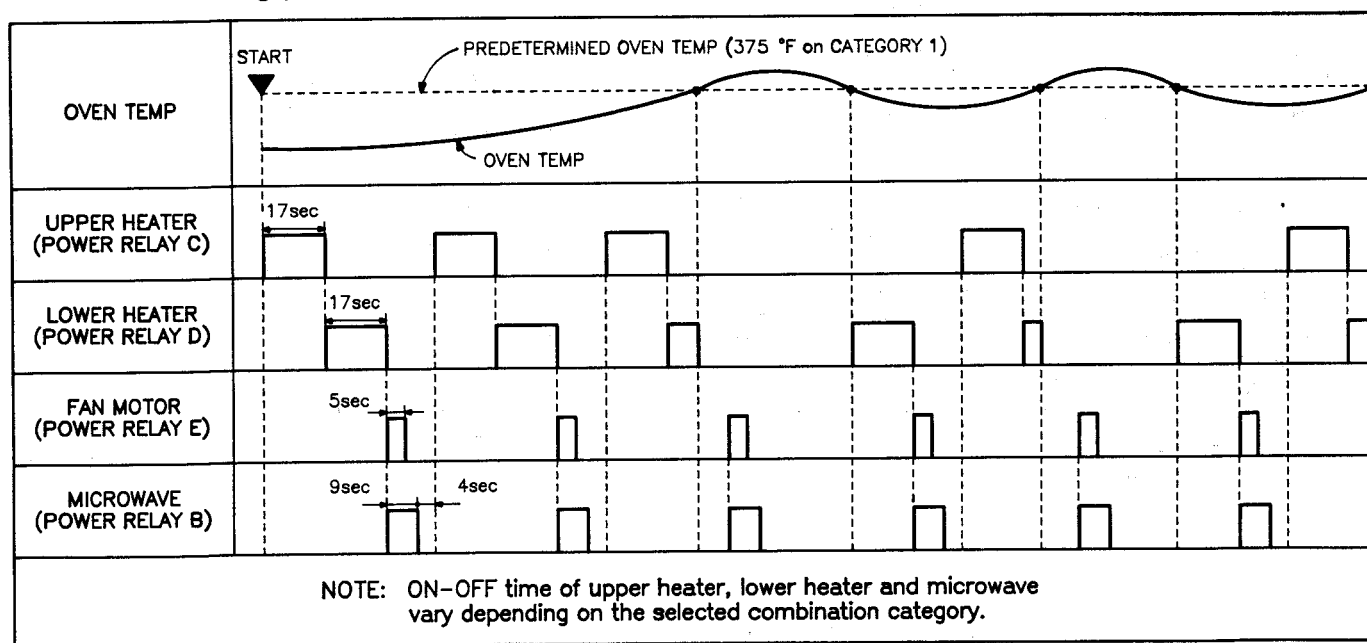

Fig. 12
- The digital programmer circuit generates the power relay B, C, D and E control signals at a specific timing as shown in Fig. 12.
- When the oven temperature reaches the predetermined temperature, the digital programmer circuit stops supplying power relay C and D control signals resulting in both upper and lower heaters to turn off. During this, digital programmer circuit continues supplying power relay B and power relay E control signals so that microwave and fan motor activity continues at predetermined duty ratio as shown in Fig. 12. The microwave and fan motor activity continues to cycle until entire cooking programme is completed.